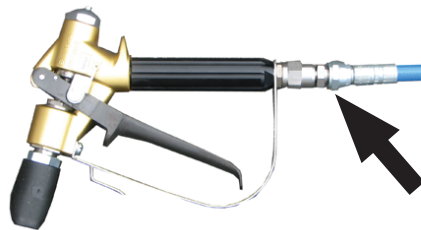

Fig. 10 Spraying hose to gun (example)
2. Connect the other end of the spraying hose to the spray gun (see Fig. 10).